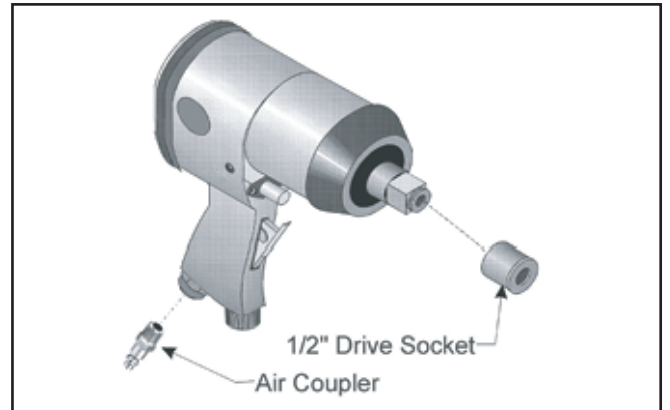

Figure 7- Attaching the Air Coupler and Socket
- (! Determine the socket size necessary for the job you need to do. Attach the appropriate 1/2" drive socket to the Impact Wrench as shown in Figure 7.